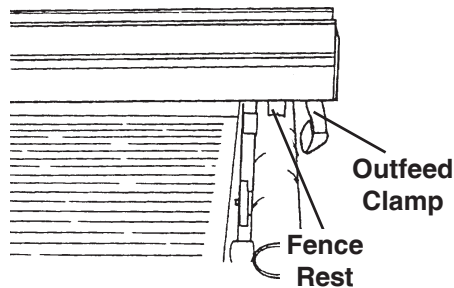

Figure 75
3. Check to see if the Fence Rest fully contacts the outfeed Table Tube, as shown in Figure 75.